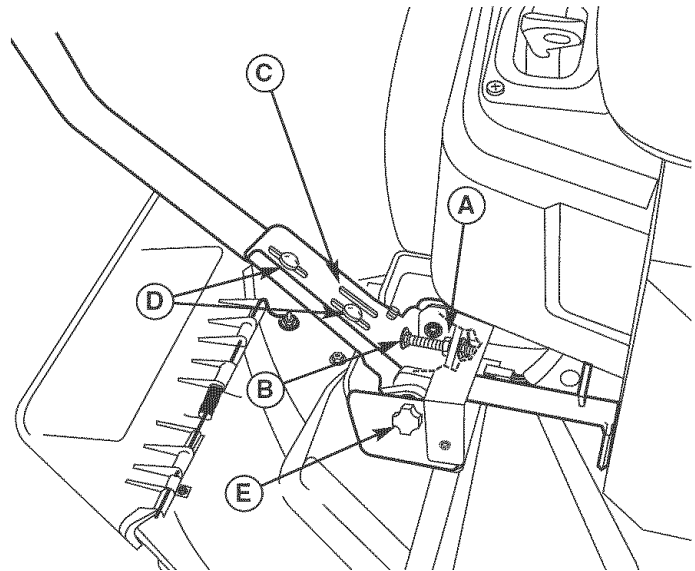
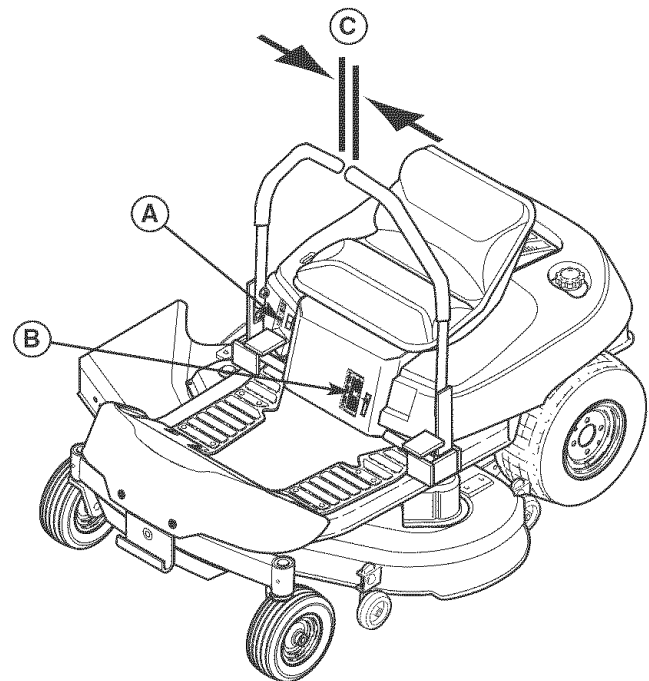

Figure 36. Control Lever Adjustment
Figure 37. Cutting Height Adjustment
To Adjust Control Lever Height: Pull the levers in across the operator's lap to their DRIVE positions. Loosen the mount bolts (D, Figure 36) and raise or lower the levers to the desired position. Tighten the mounting bolts.(D).
To Adjust Control Lever End Gap: The control lever end gap (C, Figure 37) should be adjusted so that the levers do not contact each other when placed in DRIVE positions. Loosen the jam nut (A, Figure 36) and adjust the length of the carriage bolt (B) so that the levers do not contact each other. Repeat on the opposite side. Tighten the jam nut (A) to lock the carriage bolt in position.
To Adjust Operator Clearance: The space between the operator and the control levers can be increase by removing the lower mounting bolt (D, Figure 36), pivoting the lever forward, and reinstalling the capscrew through the control lever and forward slot (C). Repeat with the other ground speed lever.
If the rider veers to the right or left when the ground speed control levers are in the maximum forward position, the top speed of the right lever can be balanced by turning the adjustment knob (E, Figure 36). Loosen the jam nut and turn the knob COUNTERCLOCKWISE to increase speed or CLOCKWISE to decrease speed. Tighten the jam nut when complete.
To increase the mower cutting height (raise the mower deck), press the top of the mower cutting height switch (A, Figure 37) To decrease mower cutting height (lower the mower deck), press the bottom of the switch. Mower cutting height range is 3-3/4" to 1-1/2". The cutting height gauge indicates the position of the mower deck.. The cutting height gauge (B) is located on the front of the rider, just behind the driver's left leg.